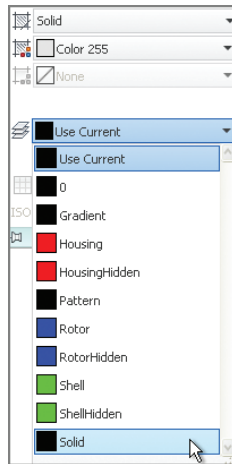

FIGURE 8.5
7. Expand the Properties panel, open the Hatch Layer Override drop-down, and select the Solid layer (see Figure 8.5).